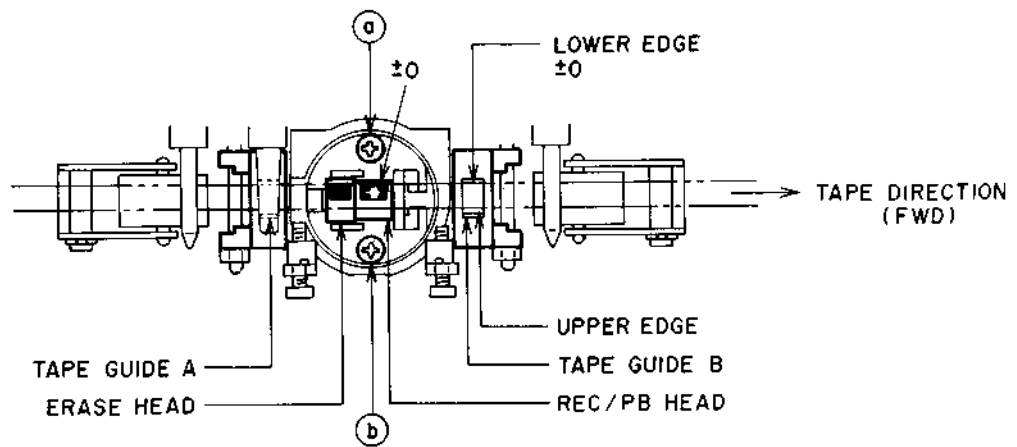

Fig. 6-1
(Refer to Figs. 6-1, 6-2, & 6-4)
- 5) When the head replacement is necessary, loosen only the screws ① & ② in Fig. 6-1 for easy replacement.